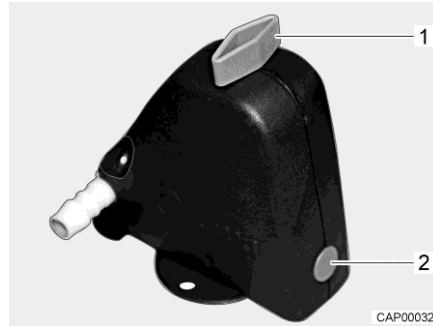
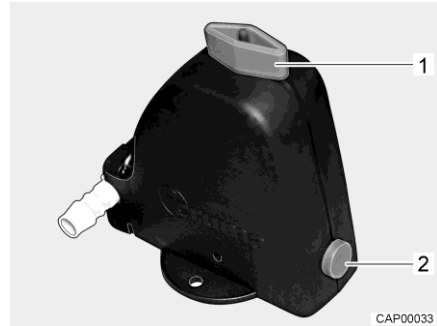

Fig. 63 Safety/drainage valve closed
Fig. 64 Safety/drainage valve open
- Open the safety/drainage valve (Fig. 63). To do this, turn the knob (Fig. 63,1) parallel to the safety/drainage valve. The push button (Fig. 63,2) jumps out. The open safety/drainage valve is shown in Fig. 64.